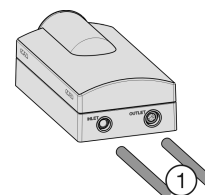

Fig. 56
- ▶ On the thin hose, measure the insertion depth (E) of 21/32 " (17 mm) and mark it.
- ▶ On the thick hose, measure the insertion depth (E) of 25/32 " (20 mm) and mark it.
- ▶ Insert the hoses *Fig. 56 (1)* all the way into the water filter module (i.e., up the the mark you made), past the point of resistance.